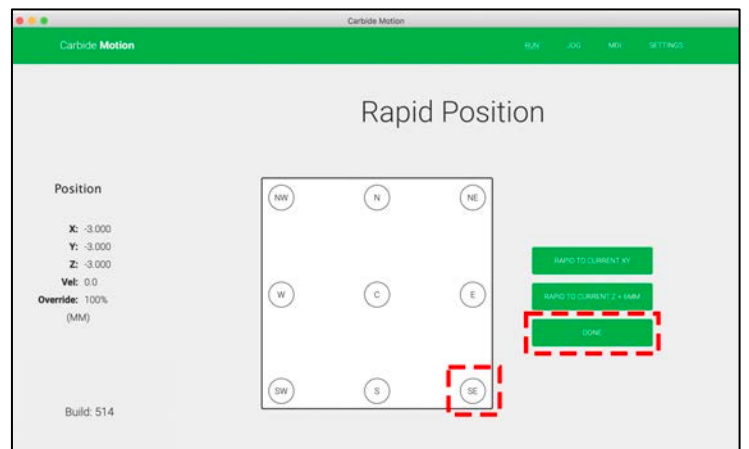

Figure 20
5. Click the **SE** button to move the spindle to the front-right corner of the machine. Once in position, click **Done**. See *Fig. 20*.